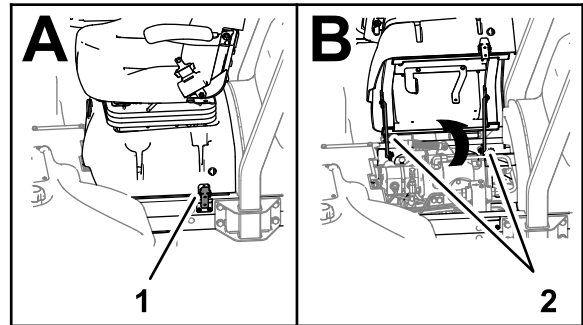

Figure 4
Always separate the power-disconnect connectors before working on the cutting units (Figure 4).
- Unlatch the seat base, tilt the seat and base open, and support it with the prop rods (Figure 4).